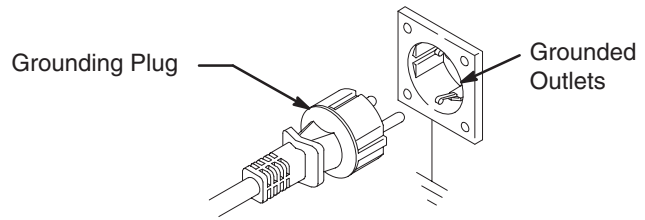

Fig. 2
1. Models 232138, 232135 require a 230 VAC, 50 Hz, 10A circuit with a grounding receptacle. Models 232136, 232137 require a 100 VAC, 50 Hz, 15A circuit with a grounding receptacle. See Fig. 2.